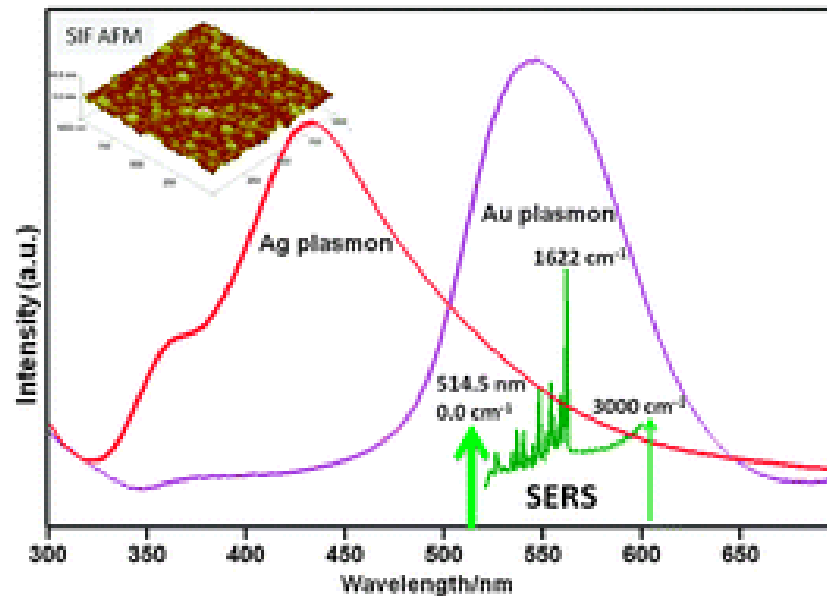

FIG.2.Spectroscopy graph.
- Measurement of radiation intensity as a function of wavelength is described by ***spectroscopy***, as shown in figure 2.